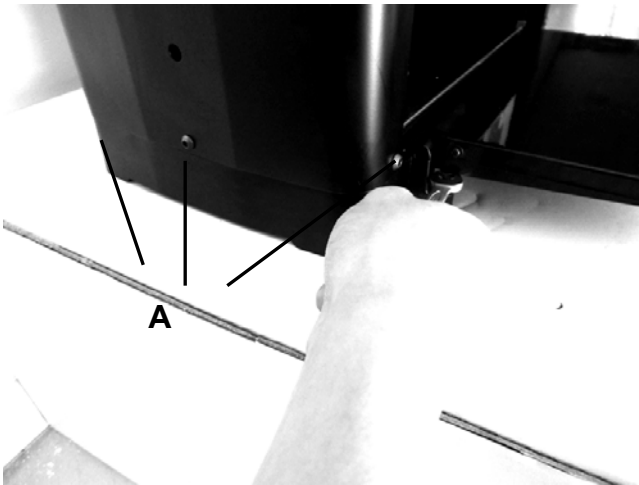

FIG 13
3. On the left side panel, remove the 3 socket head screws (A) located around the bottom edge and remove the side panel to expose the gearbox cover. SEE FIG 13.